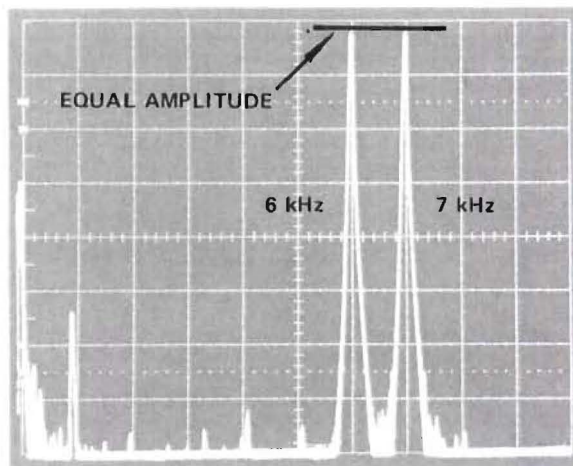

Figure 29 CCIF Difference Method of Measurement
1. The CCIF Difference method of measuring requires a similar setup that uses two equal amplitude input signals from the signal generators. A typical display is shown in Figure 29.